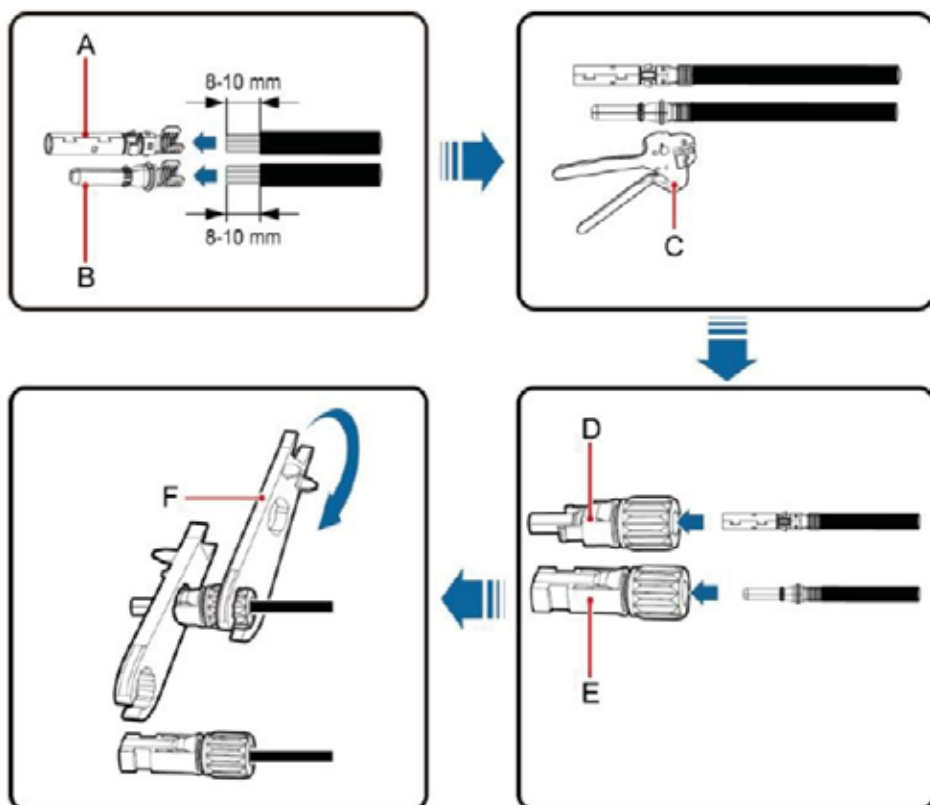

Figure 4.15 Connection of MC4 DC connector and PV string
- (2) Connect the output cables of solar modules to the DC connector as figure 4.15 shows. Loosen the nut of the connector and remove the isolation layer of the DC cable for about 15mm. Insert it into the connector and press until you hear the lock sound. Finally tighten the nut to a torque of 2.5-3 Nm. The wiring of the negative pole is the same as that of the positive pole. Ensure the poles of solar modules are well connected with the connectors;